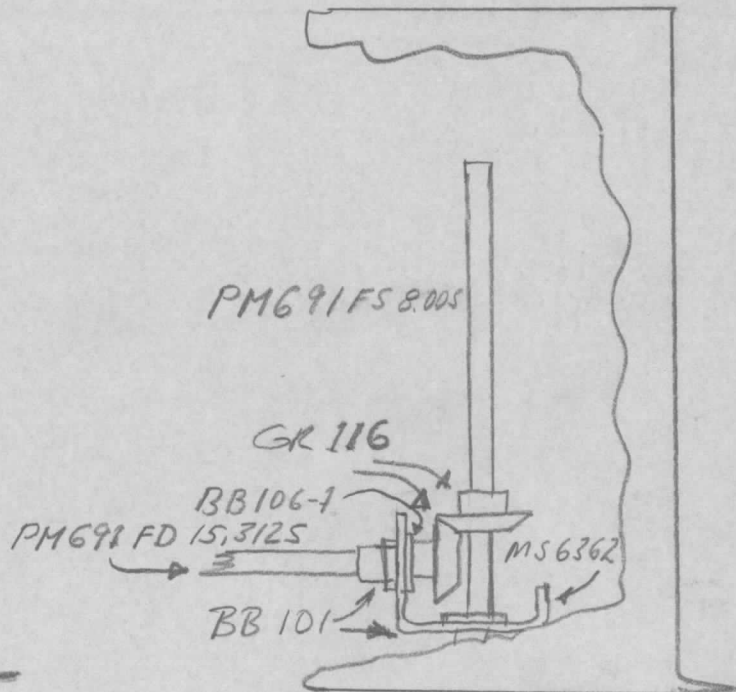

FIGURE 5
18. Assemble the TUNE capacitor assembly as shown in figure 5. and reinstall in the transmitter.